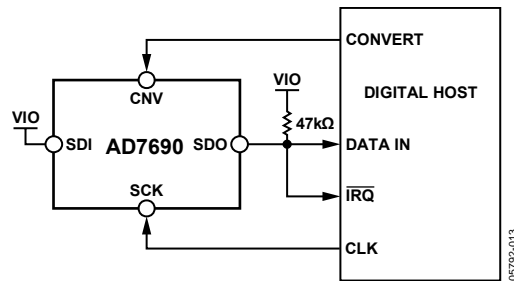
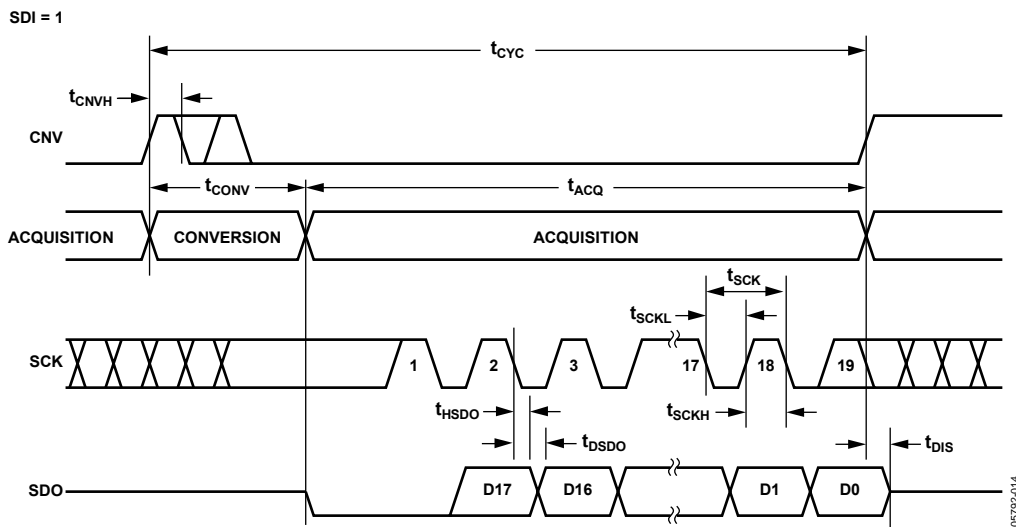
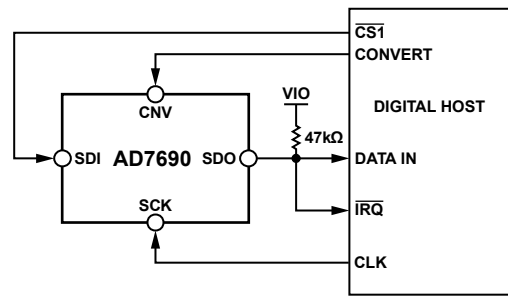
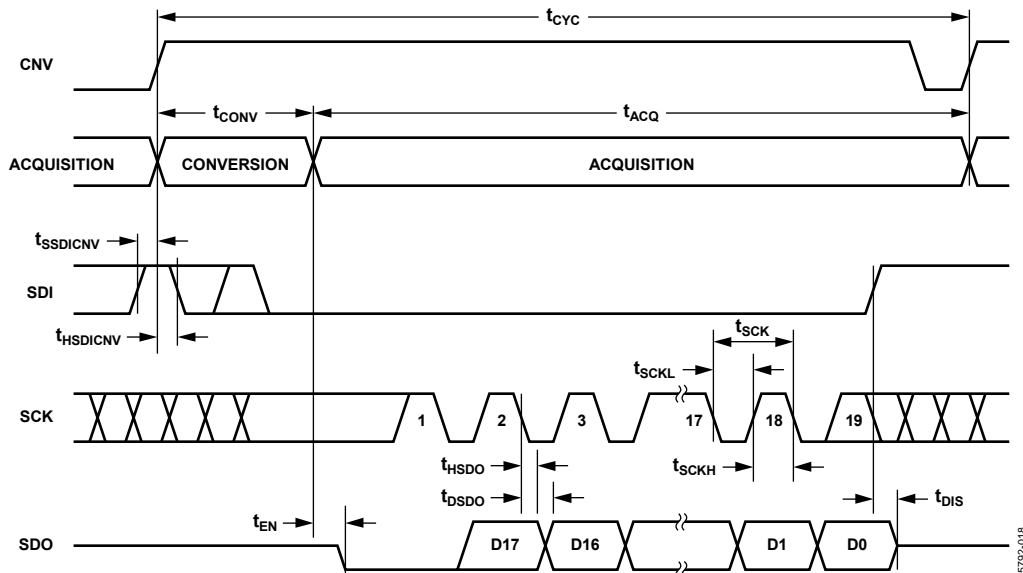

Figure 36. 3-Wire $\overline{\text{CS}}$ Mode with Busy Indicator Connection Diagram (SDI High)
Figure 37. 3-Wire $\overline{\text{CS}}$ Mode with Busy Indicator Serial Interface Timing (SDI High)
Figure 40. 4-Wire $\overline{\text{CS}}$ Mode with Busy Indicator Connection Diagram
Figure 41. 4-Wire $\overline{\text{CS}}$ Mode with Busy Indicator Serial Interface Timing
- In $\overline{\text{CS}}$ mode if CNV or SDI is low when the ADC conversion ends (see Figure 37 and Figure 41).
The connection diagram is shown in Figure 36, and the corresponding timing is given in Figure 37.
The connection diagram is shown in Figure 40, and the corresponding timing is given in Figure 41.